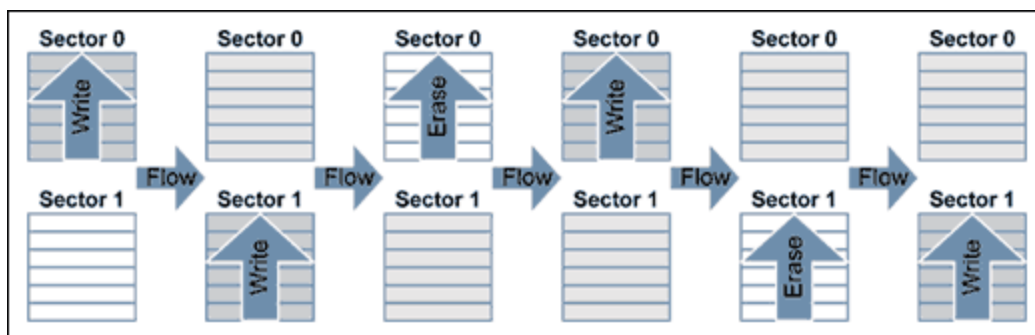

Figure 2. Bank switching flow.
**Table 3** is an example of a memory map when using two 4K x 16 flash sectors. **Figure 2** illustrates the bank-switching write/erase flow.